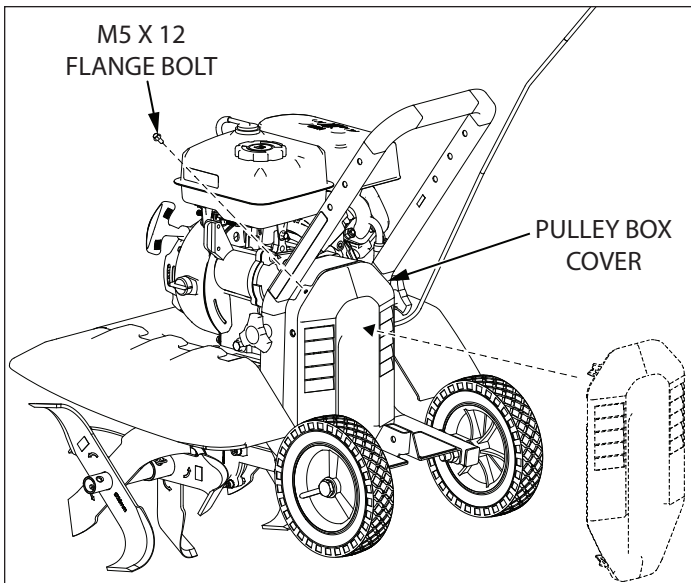

FIGURE 10
12. Remove M5 X 12 Flange Bolts from pulley box cover. Place pulley box cover onto pulley box and secure with the M5 X 12 Flange Bolts using one 8 mm wrench. **SEE FIGURE 10**